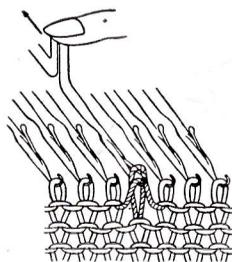

Fig. 29
- c. With your finger on the butt of the needle bring the needle all the way back. The stitch will slide over the hook of the needle, will be knitted. (See Fig. 29, 30)